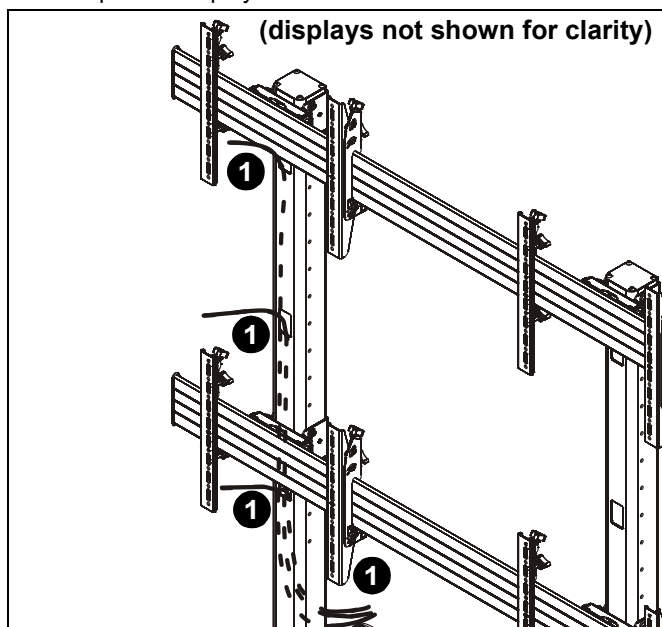

Figure 5
1. Route cables from displays through nearest holes on front of columns and out through back cable management hole. (See Figure 5)